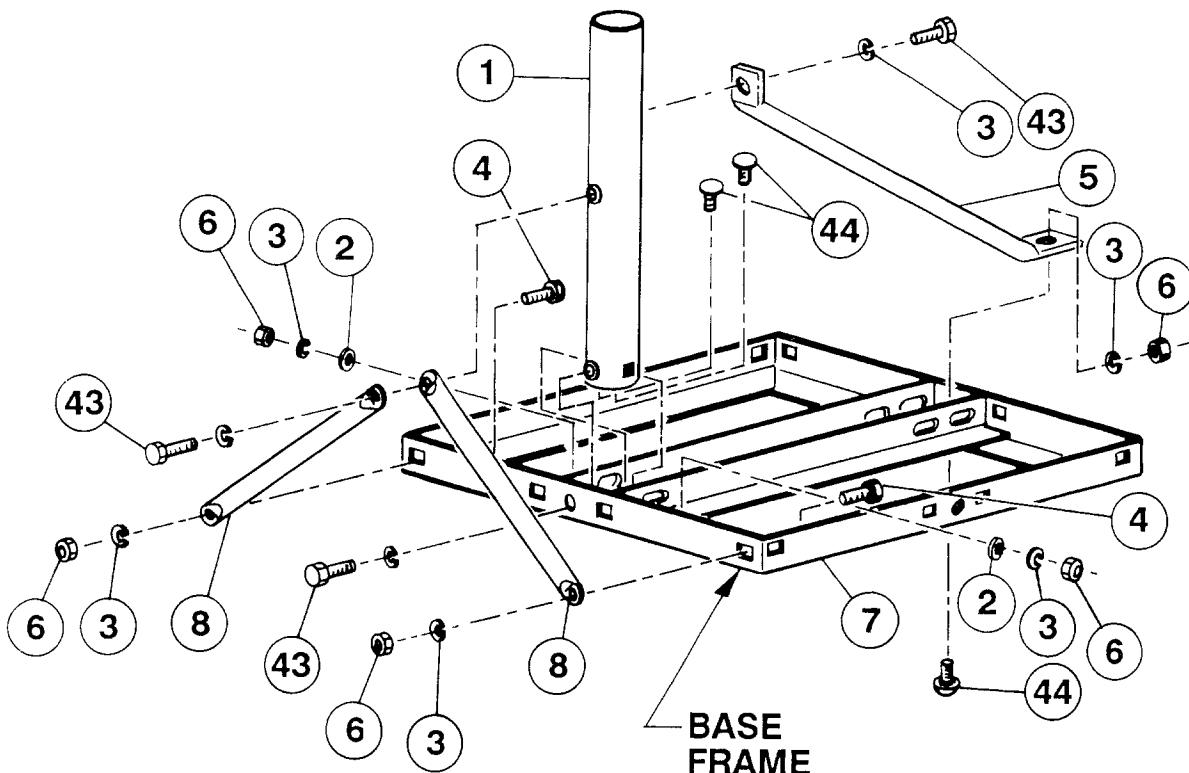

FIG. 1.1 - NON-PENETRATING POLE MOUNT, MODELS 6523, 6920 & 6922
Swing side braces (8) down and align holes in braces with holes in base frame(7). Secure with two M8 x 20 hex bolts (4), lock washers (3) and hex nuts (6). Refer to Fig. 1.1 Do not tighten.
Assemble rear brace (5) to mast (1) and base frame (7) as shown in Figure 1.1. Secure with one M8 x 25 hex bolt (43) and lock washer (3). Secure rear brace to base frame with one M8 x 25 Rd HD Sq NK (44), lock washer (3) and hex nut (6) as shown in Figure 1.1.